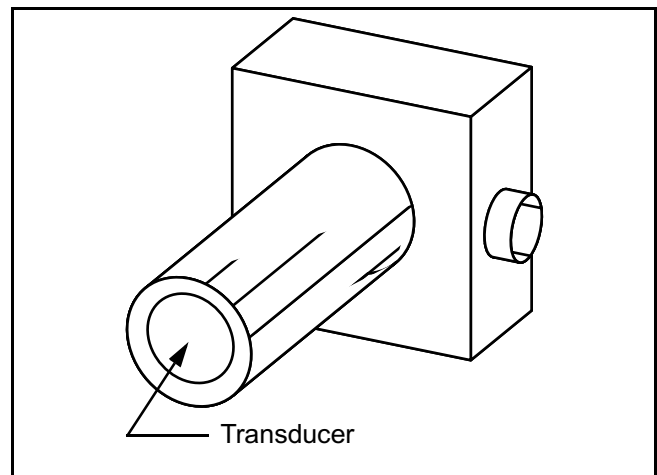

Figure 4 - 26 Cleaning sonic sensor
- 3) Check transducer daily for material buildup. The transducer can be cleaned with Simple Green cleaning fluid. Place cleaning fluid on a clean rag and rub transducer gently to remove any material. Wipe transducer clean and dry (Figure 4 - 26).